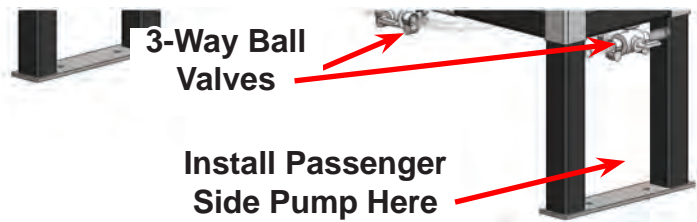

Figure 75. Install Passenger Side Pump under Tank Frame at Rear of Van
1. On the passenger's side of the van, position the passenger side pump at the rear of the van, under the tank frame mounting bolts and washers, near the van wall as shown in Figure 75.